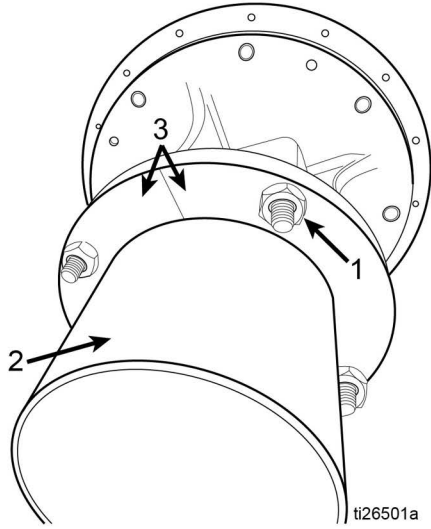

FIG. 11
1. Remove four nuts (1) from the lower part of the pump as shown in FIG. 11.
2. Slide gasket (Part No. 162788) over pump intake cylinder (2). Align holes with cylinder mounting collars (3) and pump (FIG. 11).